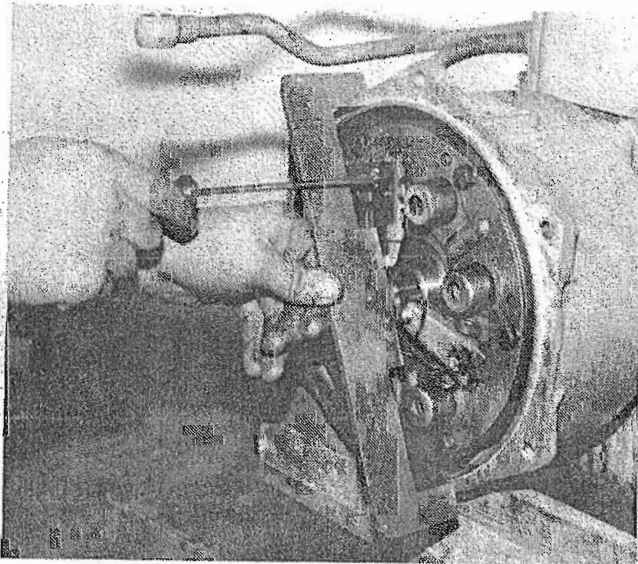

FIG. 14
Using the set gauge, adjust the height of the (3) three clutch fingers to 20mm. (Fig. 14)